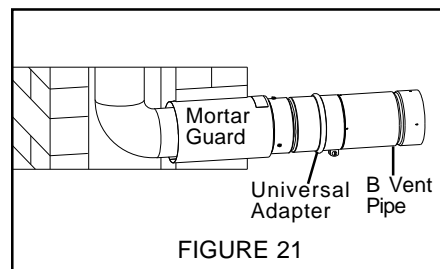

FIGURE 21
4. Engage the type B vent pipe with the Universal B vent adapter. Once fully engaged, tighten the machine screw so that the adapter clamps down and secures the B vent pipe in place (See FIGURE 21).